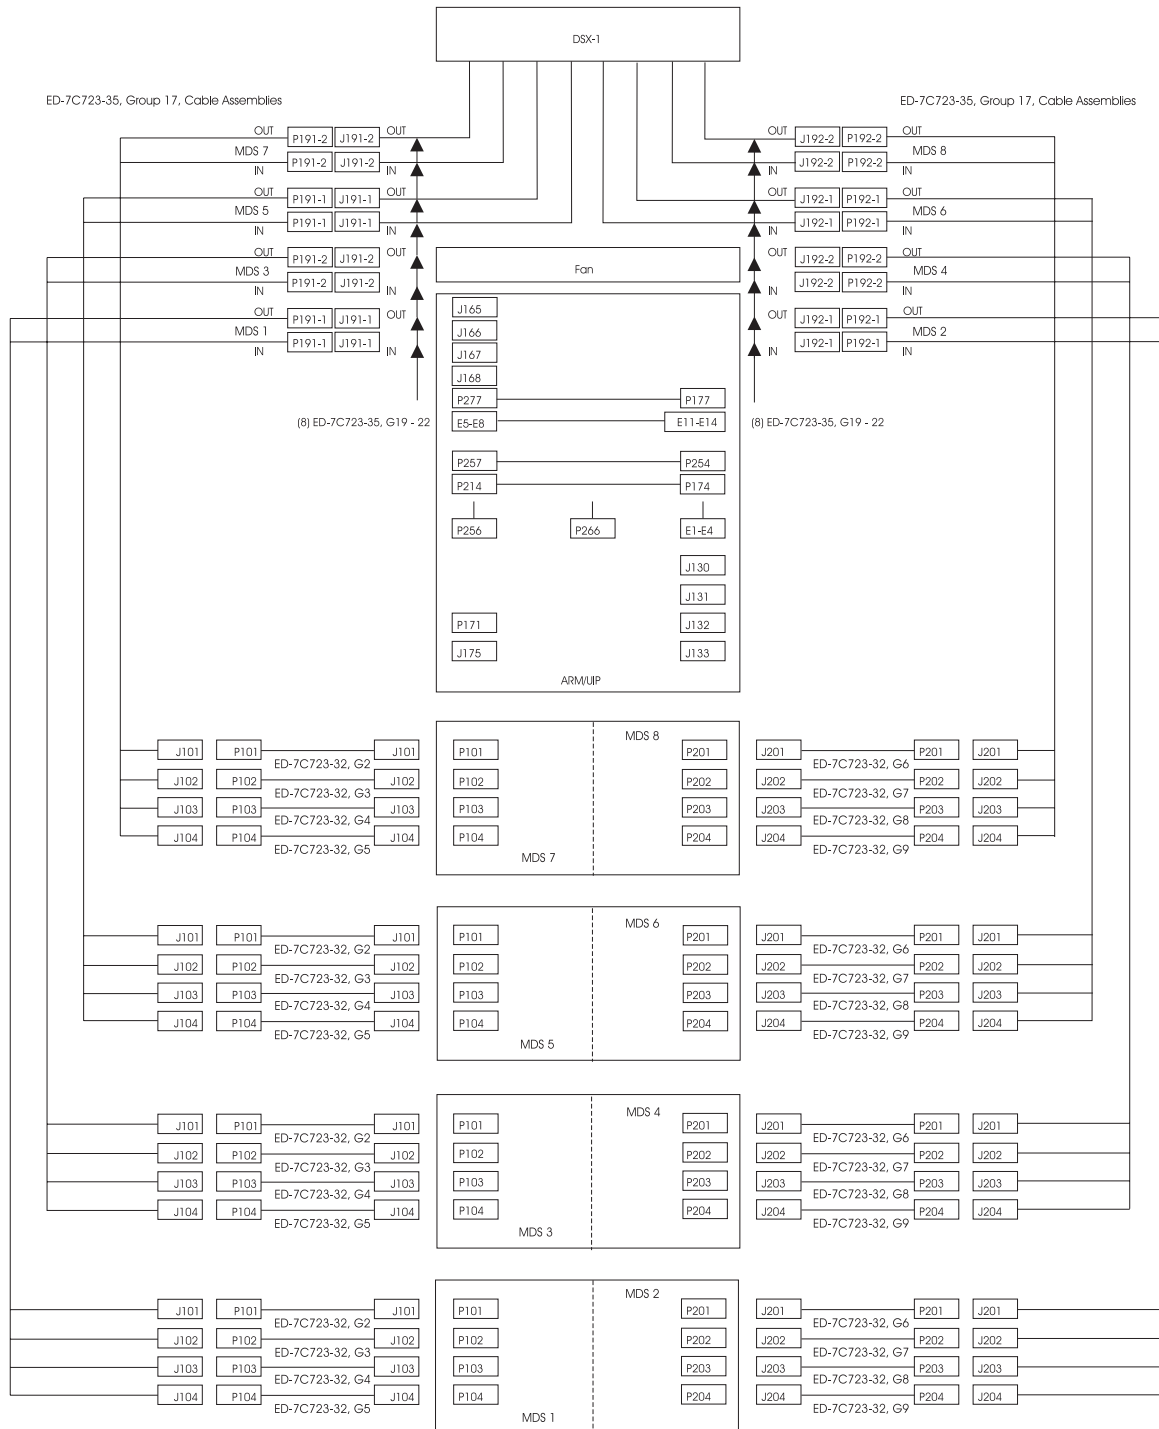

Figure 1 – MDS/DSX-1 Cabling Connections
5. Install new MDS/DSX-1 transmission cable assembly ED-7C723-35, Group 17 (601831043) by connecting the P191 and P192 connectors to the J191 and J192 connectors on the ends of the ED-7C723-35, Group 19 cables (refer to Figure 1). Do not connect the MDS ends of the Group 17 cable yet.
11. Connect the new ED-7C723-35, Group 17, cable connectors J101 to J104 to the ED-7C723-32, Group 2 through 5, dangles (P101 through P104) from each MDS (refer to Figure 1) in matching increasing order.